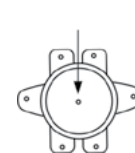

Fig. 14
- for FSM6/FSM4 series horizontal-type water heaters: press the button, located in the center of the thermal switch, placed near the heating element (with a round shape), until it clicks, Fig. 14;